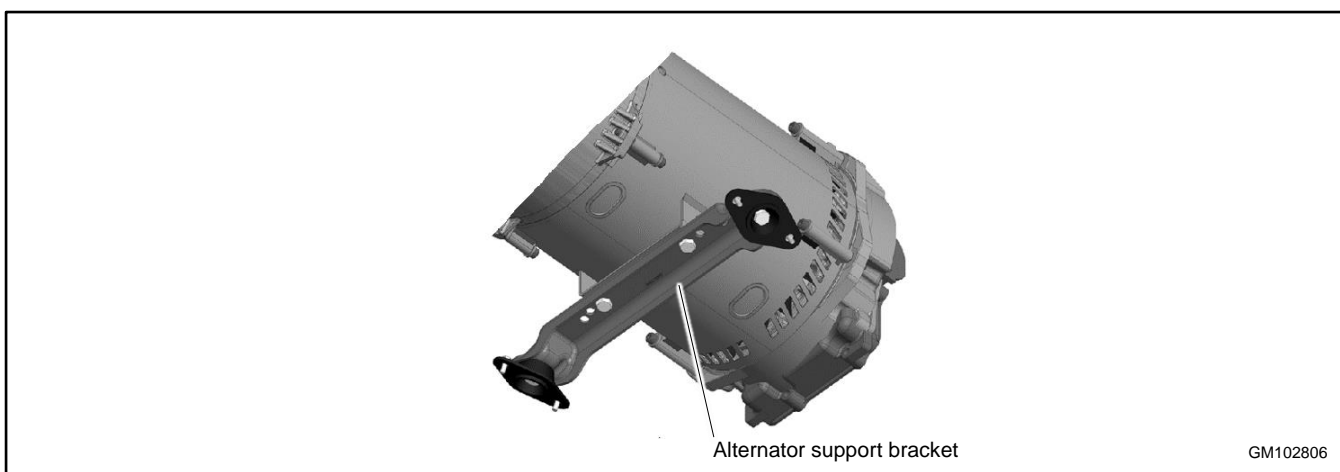

Figure 120 Alternator Support Bracket
24. Remove the alternator support bracket from the alternator assembly. See Figure 120.